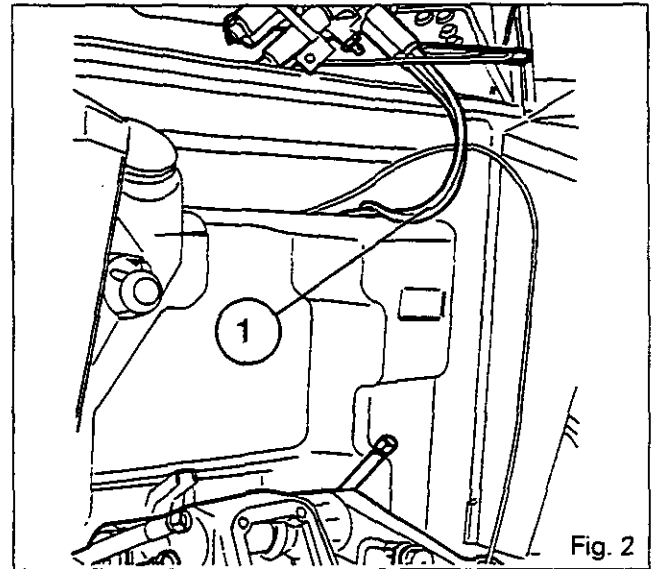

Fig. 2
Note: Tilt the support and auxiliary spool valve assembly without detaching the control cables (1) (Fig. 2).
16. Refit the support, tilting it, with the control cables (1) (Fig. 2).